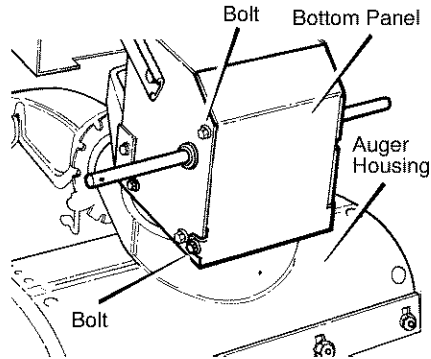

Figure 35
1. Remove the gas from the gas tank. Stand the snow thrower up on the front end of the **auger housing** (see Figure 35).
3. Loosen the **bolts** on each side of the **bottom panel** (see Figure 35).
6. Install the **bottom panel** (see Figure 35).
1. Remove the gas from the gas tank. Stand the snow thrower up on the front end of the **auger housing (4)**. (see Figure 35).